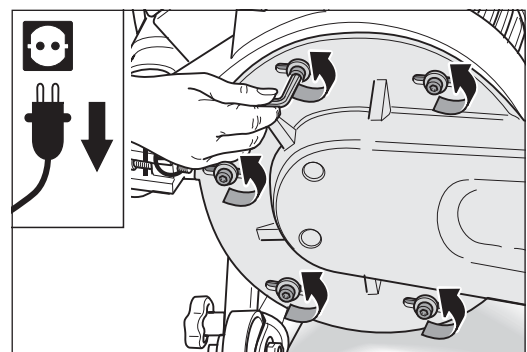

Fig. 66 Undoing the five fastening screws of the attachment.
- 4 Use the proper Allen key to undo all five screws with which the attachment is installed on the fan housing (fig. 66).